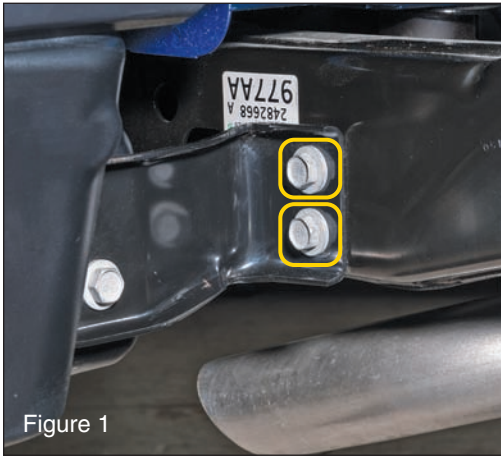

Figure 1
**Caution:** Put on safety glasses. Remove spare tire from vehicle. Remove the four M10 bolts (2 per side) holding the rear bumper brackets to the frame using a 16mm socket. (see FIG1)